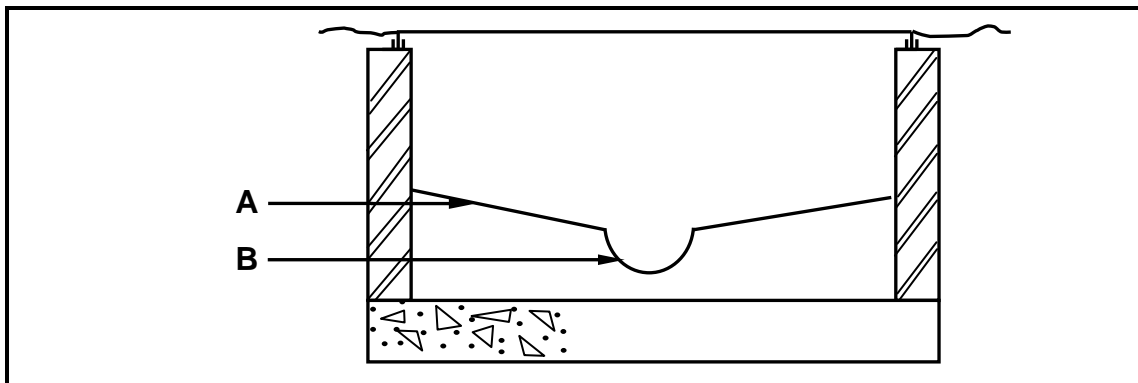

FIGURE 3.1
- 3.1 FIGURE 3.1 below shows a sectional view of a manhole. Study the drawing and answer the questions that follow.